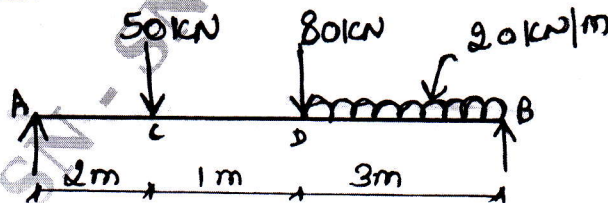

Fig.Q.8(b)
b. The simply supported beam shown in Fig.Q.8(b) carries 2 concentrated load and a UDL. Draw the SFD and BMD.